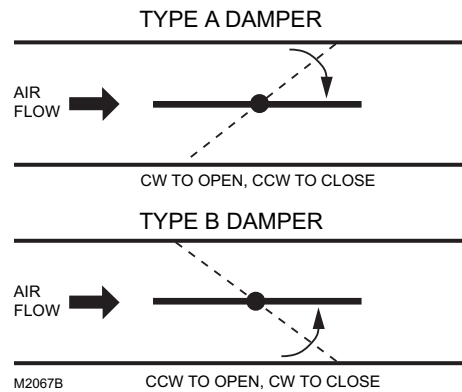

Fig. 5. Determining rotation direction (CW or CCW) for damper opening.
3. The direction the damper shaft rotates to open the damper (CW or CCW), see Fig. 5.